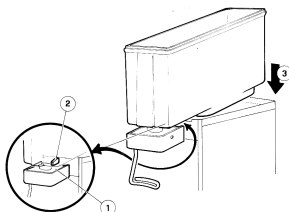

figure 8
- 4 - Fit the bowl gasket to the evaporator. Note: the largest brim of the gasket must face against the drip plate (see figure 8).
CADDY 5 : be sure first that the faucet top (1) is under the tooth jutting (2) out of the drip plate (see figure 8).